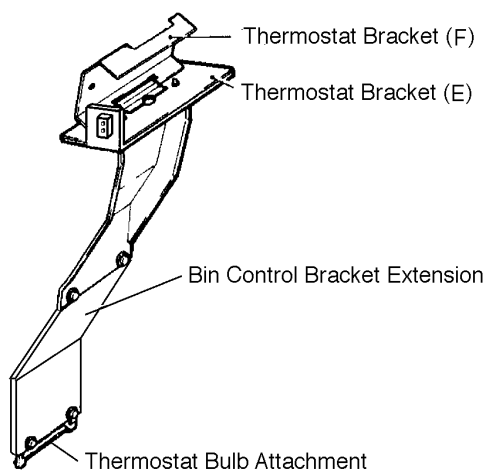

Fig. 3b
- (j) Remove the two screws holding the Bulb Holder (C) and the Thermostat Bulb Attachment together. Put aside the Bulb Holder (C); it is not needed with the Hoshizaki Bin.
- (k) Use two of the screws to attach the Bin Control Bracket Extension to the Thermostat Bracket (E).
- (l) Use the two 4 x 10 stainless steel screws in the accessory bag to attach the Thermostat Bulb Attachment to the Bin Control Bracket Extension. See Fig. 3b.